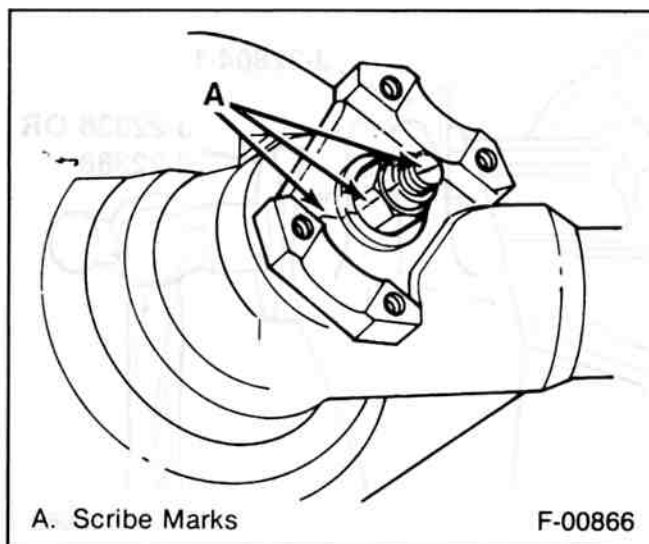

Figure 17—Scribed Marks
- Scribe a line on the pinion stem, pinion nut and the companion flange and record the number of exposed threads on the pinion stem. Use the scribed reference and the exposed threads as a reinstallation guide (figure 17).